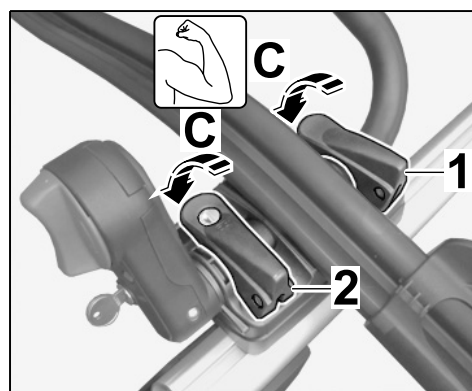

Figure 11
4.7.2 Adjust the tensioning lever towards the retainer plate using the required amount of force (⇒ Figure 11-C-).
Adjust the tensioning lever towards the retainer plate using the required amount of force (⇒ Figure 11-C-).